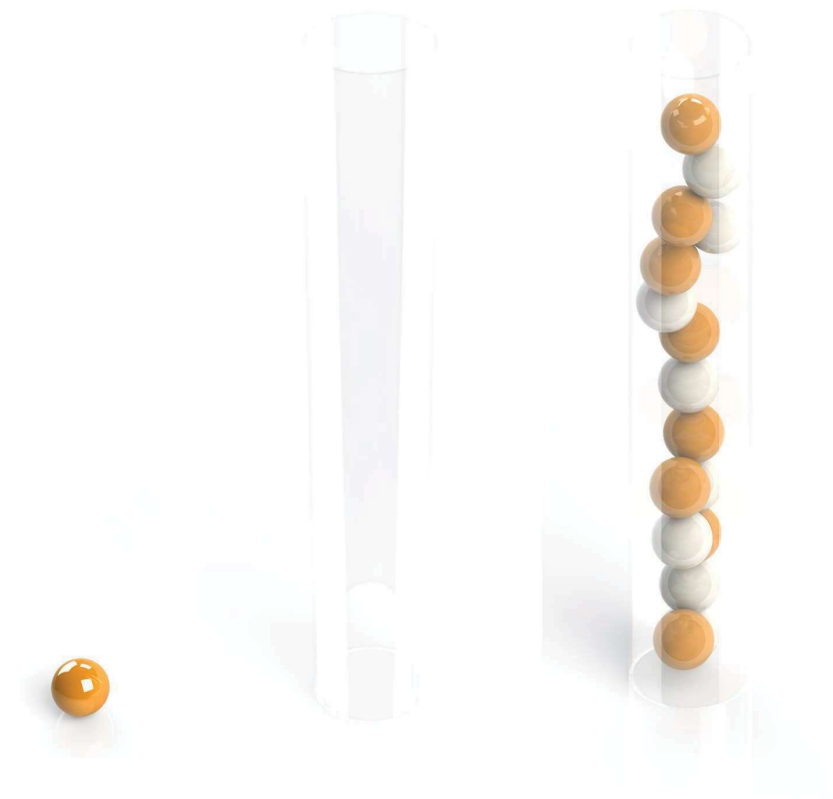

Figure 2: Left - ping-pong ball and tube, Right - Assembled tower
2. The scoring box (shown in figure 2) is split into two sections. The top of the box is open to allow depositing of scoring objects from the top. The front section, the research lab, has a front door to allow spheres to be rolled in. The rear section, the shuttle, only has a vertical loading bay for spheres.